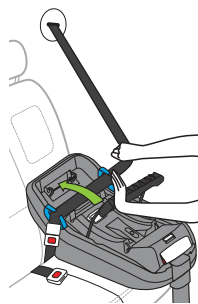

Figure 60b
- While holding the shoulder belt with one hand, use the other hand to rotate the Belt Tensioner toward the back of the vehicle until it holds the vehicle belt in tension as shown in **Figure 60b**. Use both hands to push down firmly to lock the Belt Tensioner.